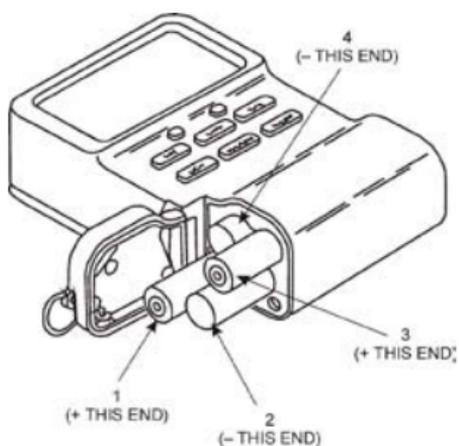
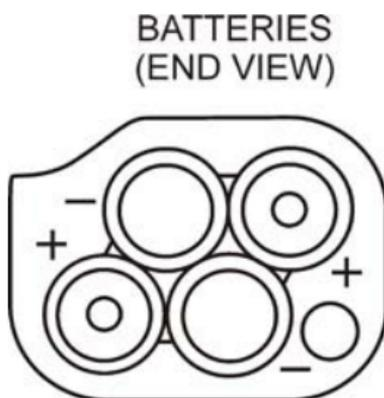

Figure 10 Location of the Batteries
Figure 11 The Battery Polarity Indicators
- Install fresh batteries in the order shown in Figure 10.
- Be sure to observe the polarity next to each of the four battery slots. The end of the battery facing out should match the slot's marked polarity, as shown in Figure 10 and Figure 11.